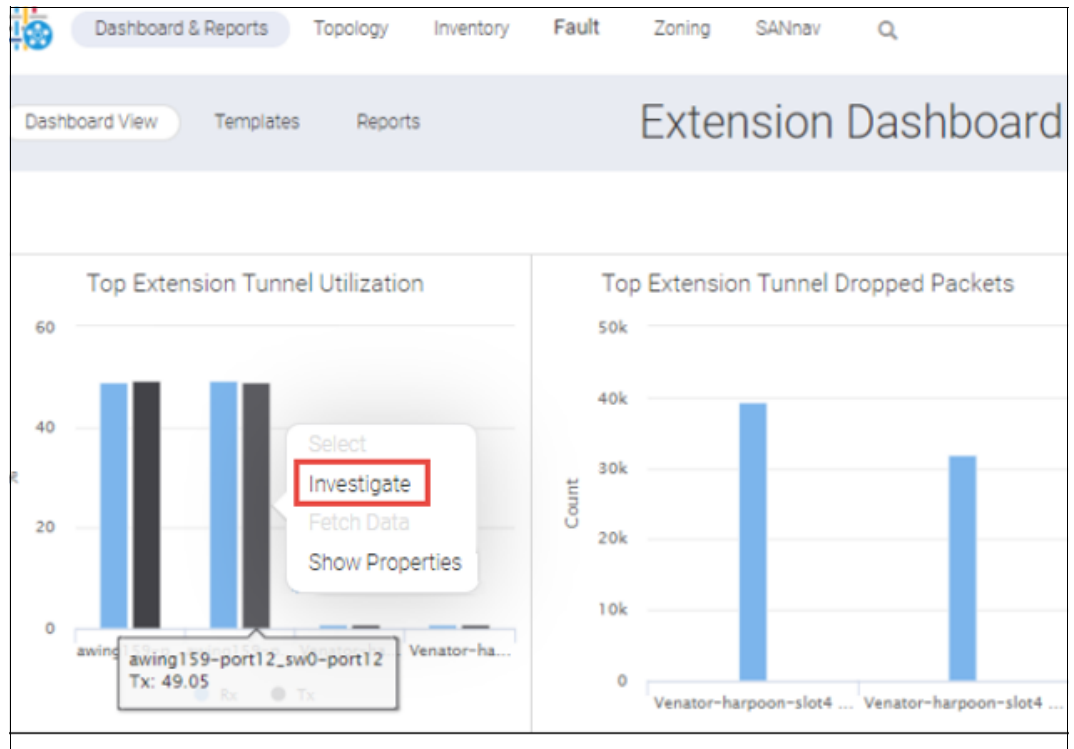

Figure 9-27 Tunnel or circuit utilization
3. If you want to examine tunnel or circuit utilization, click a bar in one of the utilization widgets, and then select **Investigate** from the list. See Figure 9-27 on page 164.